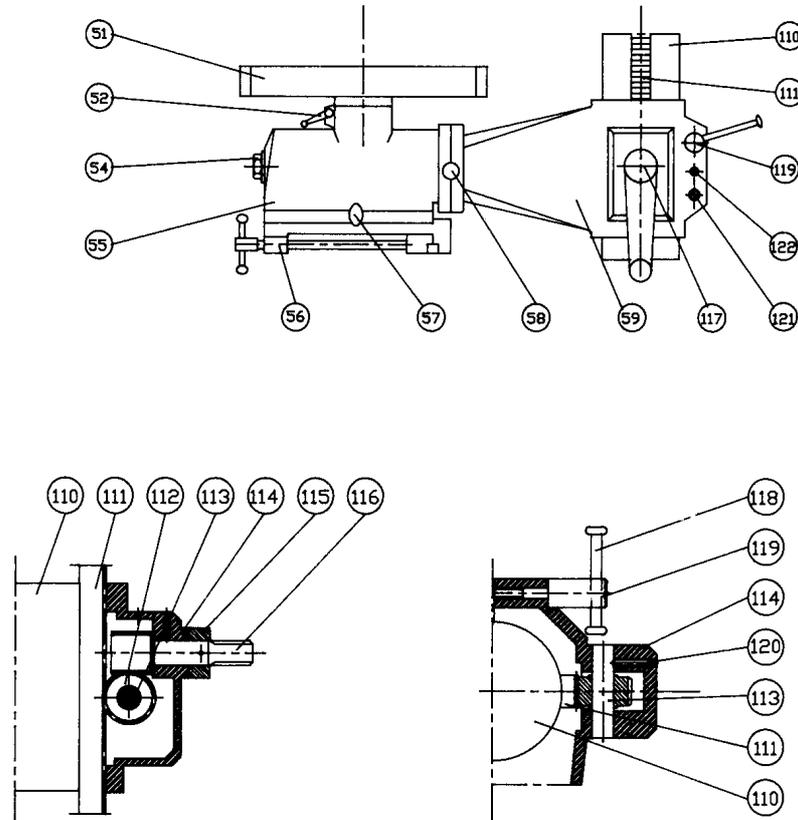

FIG.5
**CHAPITRE 5 : UTILISATION DE LA TABLE-ÉTAU REVERSIBLE (FIG.5)**